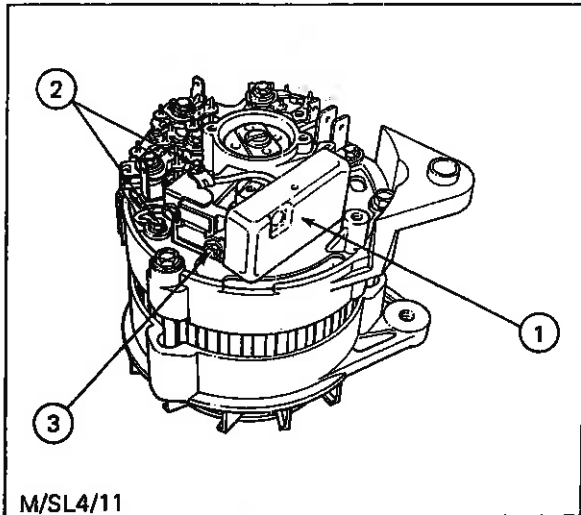

Fig. 14 - Removing the Regulator
3. Make a note of the connections to the regulator (1), then remove screws (2) securing the regulator leads. Remove the lower brush spring plate screw (3) and detach the regulator - see Fig. 14.